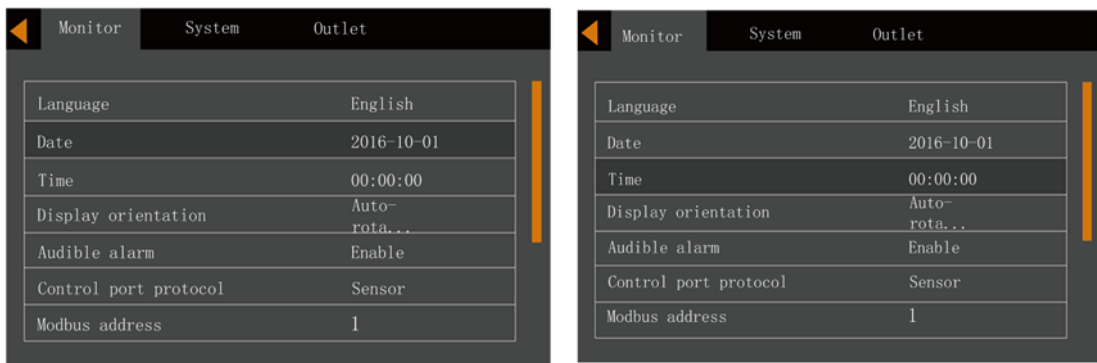

Figure 5-20 Selecting date and time
3. Press the **Enter** key, followed by the **▲** or **▼** key to highlight the date and time, see Figure 5-20.